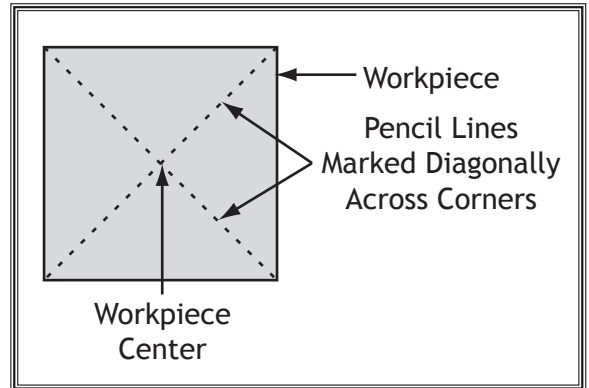

Figure 39. Workpiece marked diagonally from corner to corner to determine the center.
1. Find center point of both ends of your workpiece by drawing diagonal lines from corner to corner across end of workpiece, as shown in **Figure 39**.